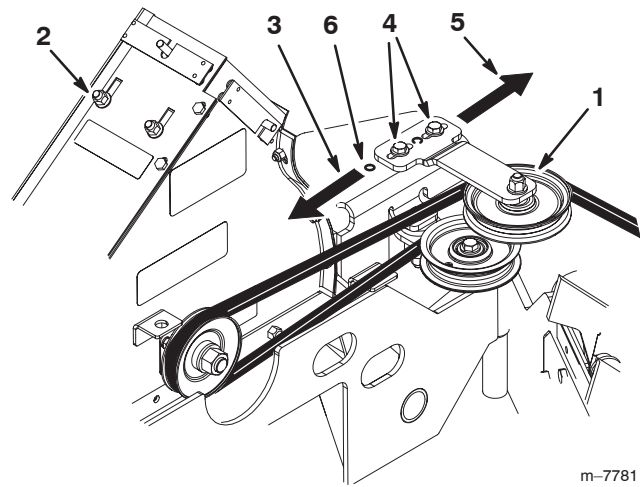

Figure 24
5. Loosen the two bolts that hold the fixed idler to the blower assembly (Fig. 24).
Important There are two extra holes in the blower assembly that can be used to obtain the correct belt tension. If needed, remove the fixed idler and install it in the extra holes to get more belt tension adjustment (Fig. 24).
6. Adjust the fixed idler towards the rear to **lengthen the spring and increase belt tension** (Fig. 24).
7. Adjust the fixed idler towards the front to **shorten the spring and decrease belt tension** (Fig. 24).
8. Tighten the two bolts that hold the fixed idler to the blower assembly (Fig. 24).